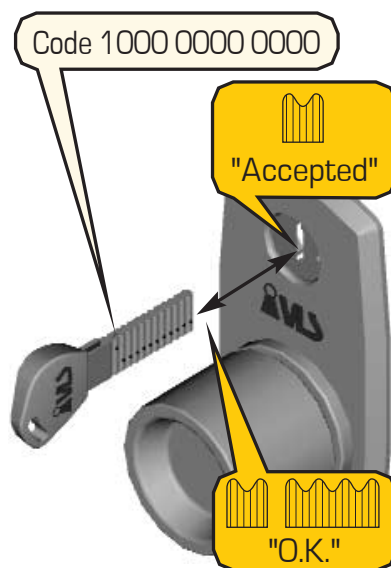

Figure 26 – Programming of working code No. 1
2. In order to program the operation code No. 1, set the code 1000 0000 0000 on the key (fig. 26).